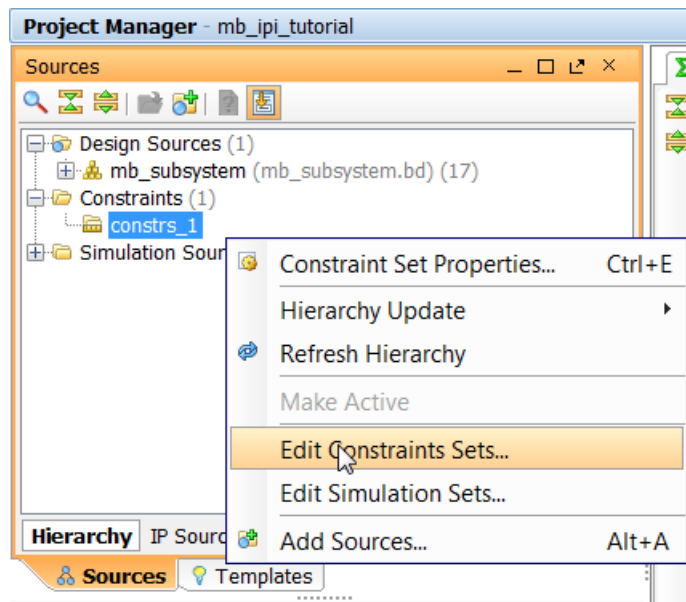

Figure 125: Edit Constraints Set Option
3. Right-click the `constrs_1` folder, then select **Edit Constraints Set** (Figure 125).